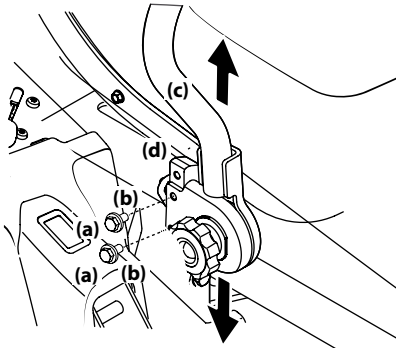

Figure 4-8
1. Remove the hex screws (a) and flat washers (b) securing the drive control lever (c) to the lower arm assembly (d). Refer to Figure 4-8.